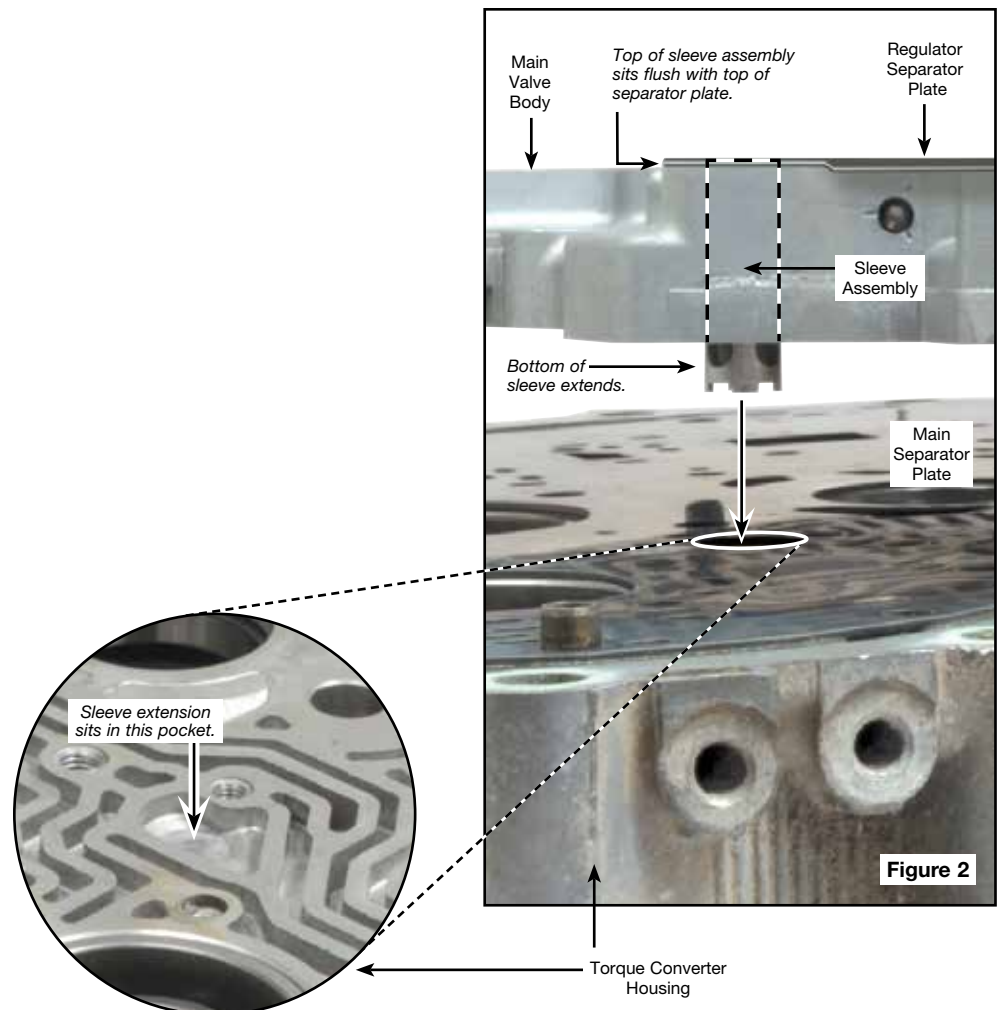

Figure 2
NOTE: Sonnax TC check valve and sleeve assembly is designed to fit in main valve body, but will extend into the torque converter housing as well (**Figure 2** on page 2). Once main valve body and regulator valve body are assembled to the torque converter housing, sleeve should occupy the entire height between those castings.
- g. Install regulator body, ensuring spacer remains in place. Use the regulator body to push sleeve, valve and spacer assembly the rest of the way into the bore. When completely installed, sleeve will extend into the torque converter housing (**Figure 2**).